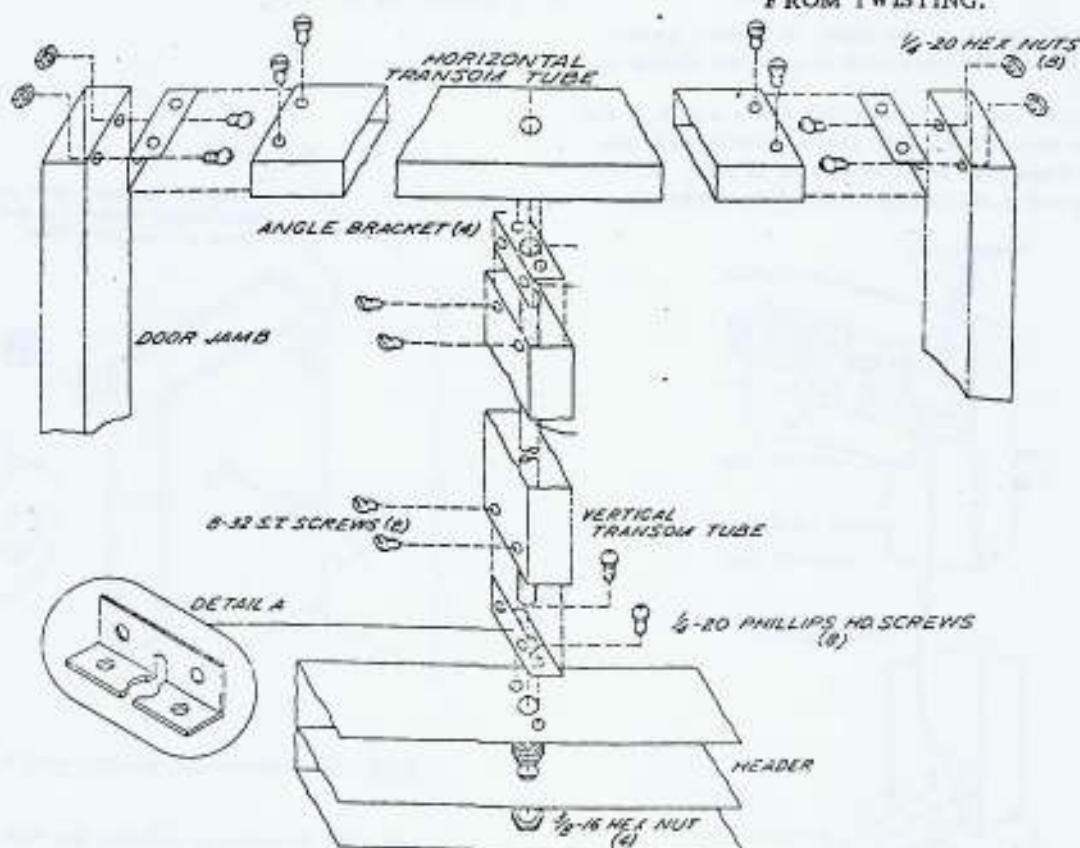

FIG. 7 Transom assembly details.
7. As shown in FIG. 7, mount the angle bracket on the top side of the header, using two  $\frac{1}{4}$ -20 phillips head screws and two  $\frac{1}{4}$ -20 nuts. Be sure to use the bracket that has a round hole in the center slot and that it is positioned as shown in Detail A. Mount the other similar bracket on the underside of the horizontal transom tube. Install the other two brackets on the top ends of the door jambs with two  $\frac{1}{4}$ -20 screws and two  $\frac{1}{4}$ -20 nuts on each bracket.